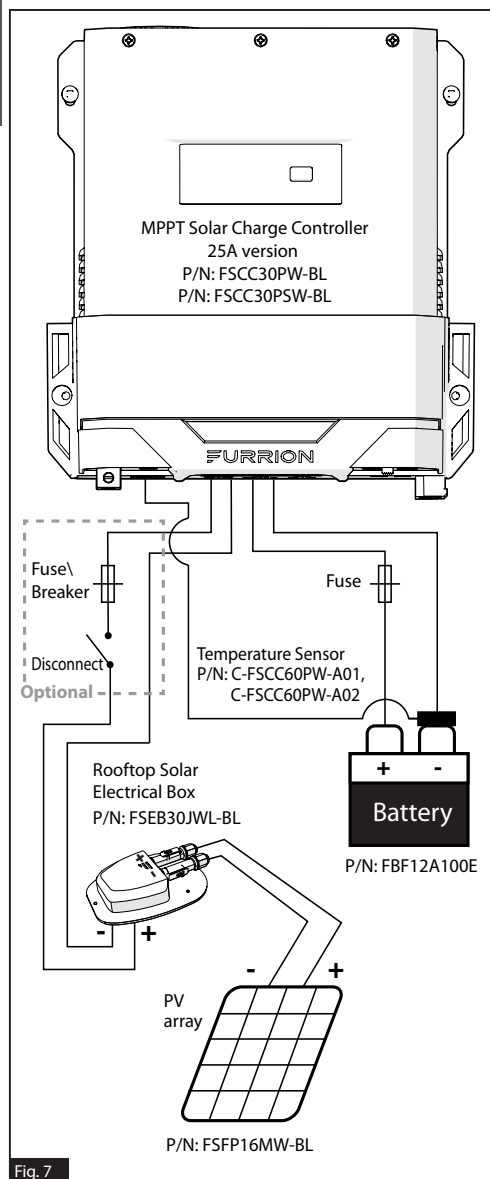

Fig. 7
- Turn on the disconnect breaker for PV array (if applicable). (Figure 7/8/9/10)